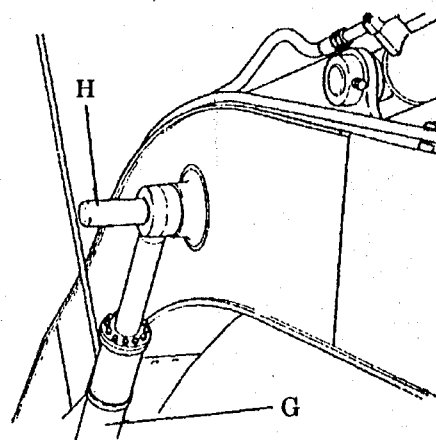

Fig. 12
3.6 INSTALLING THE BOOM (SEE FIG. 12 AND 13)